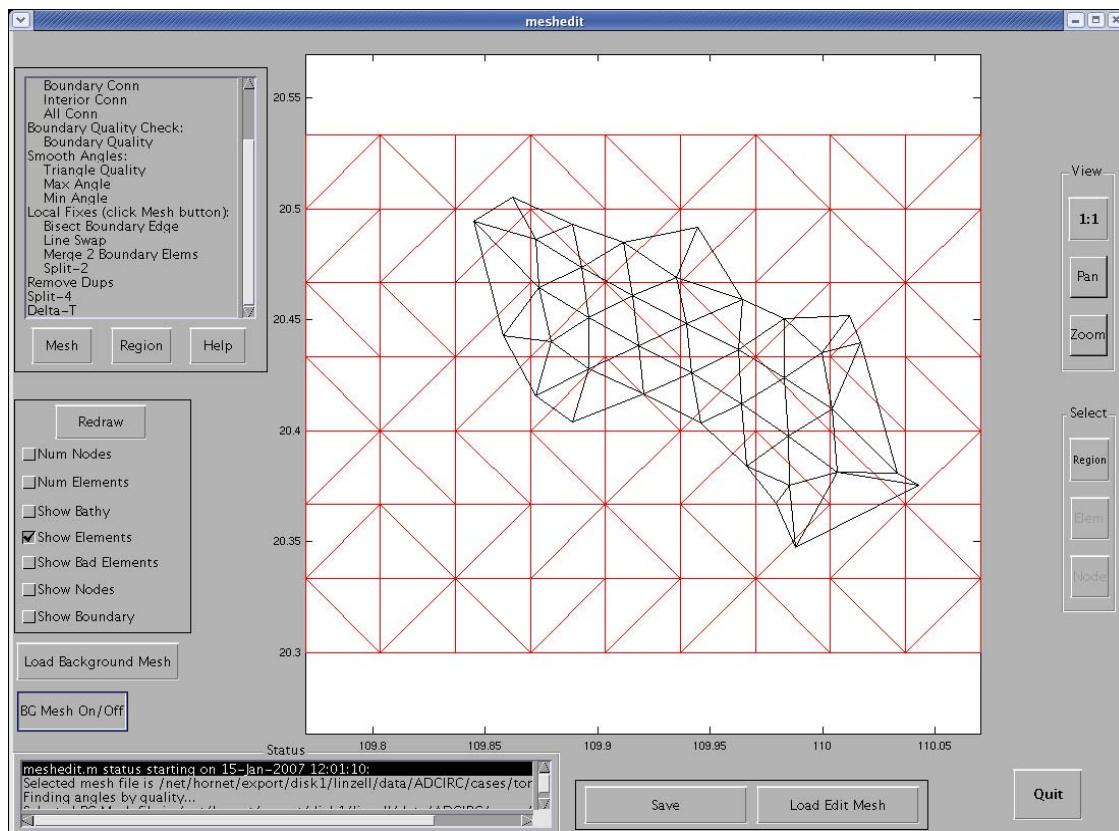
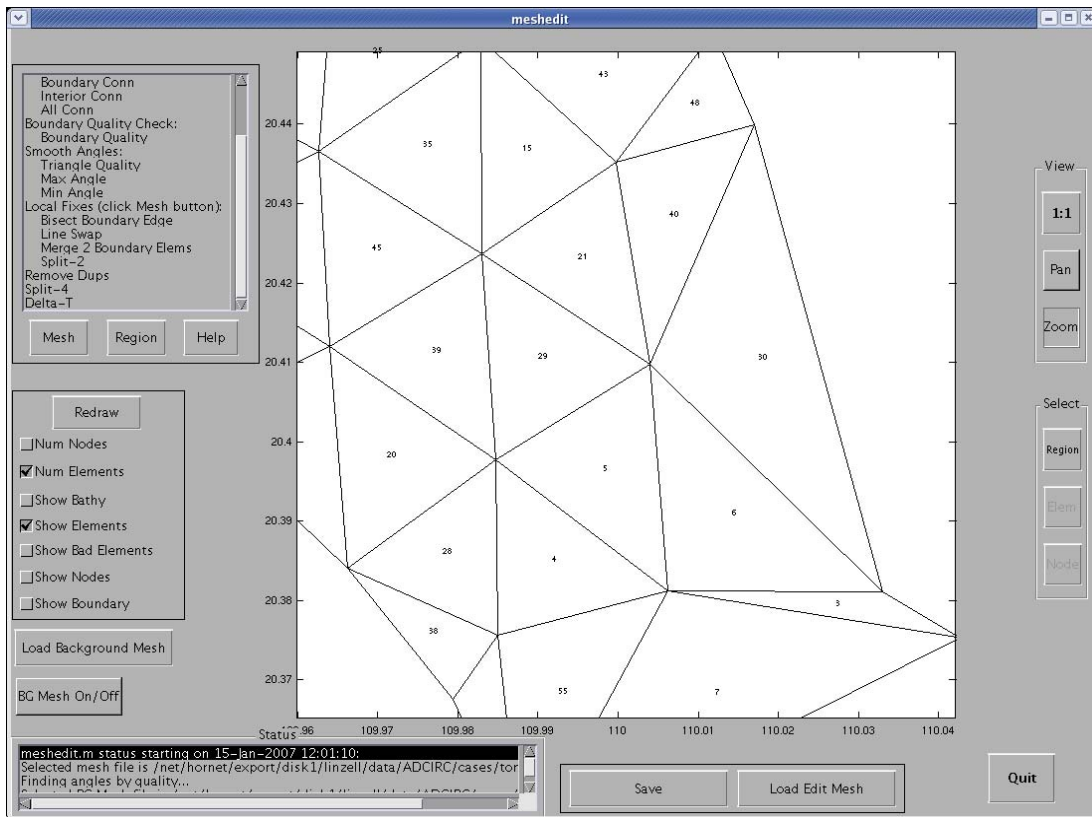

Figure 40. The MeshEdit GUI display of a background mesh (red) and an edit mesh (black).
Figure 41. MeshEdit GUI display of a zoomed-in view of mesh after the **Zoom** button was clicked.
Following any necessary coordinate conversion, the background mesh (shown in red) is displayed together with the edit mesh (shown in black) in the plot area of the *meshedit* GUI (Figure 40). The coordinates of the plot area are adjusted to display both meshes in their entirety.
**Meshedit View** features (located along the right columnar panel of the GUI) permit the user to zoom into any region of the mesh, or pan the view to examine other portions of the mesh as desired. The user clicks the **Zoom** button (e.g., Figure 40) and a small crosshair cursor appears in the plot area. If the user clicks on a location in the plot area, the view is zoomed in with the center of the zoom region identified by the point location where the user clicked. If the user clicks in the plot area and moves mouse pointer while holding down the left mouse button (commonly referred to as “rubber banding”), the rectangular area traversed by the mouse pointer becomes the new zoomed-in region. Figure 41 shows an example of a zoomed-in region of the edit mesh. Note the plot coordinates are adjusted to display the zoomed-in region.
To reset the view to the entire mesh, the user clicks the **1:1** button (e.g., Figure 41). This button also can reset the view if toggling of the mesh display features results in an undesirable image.